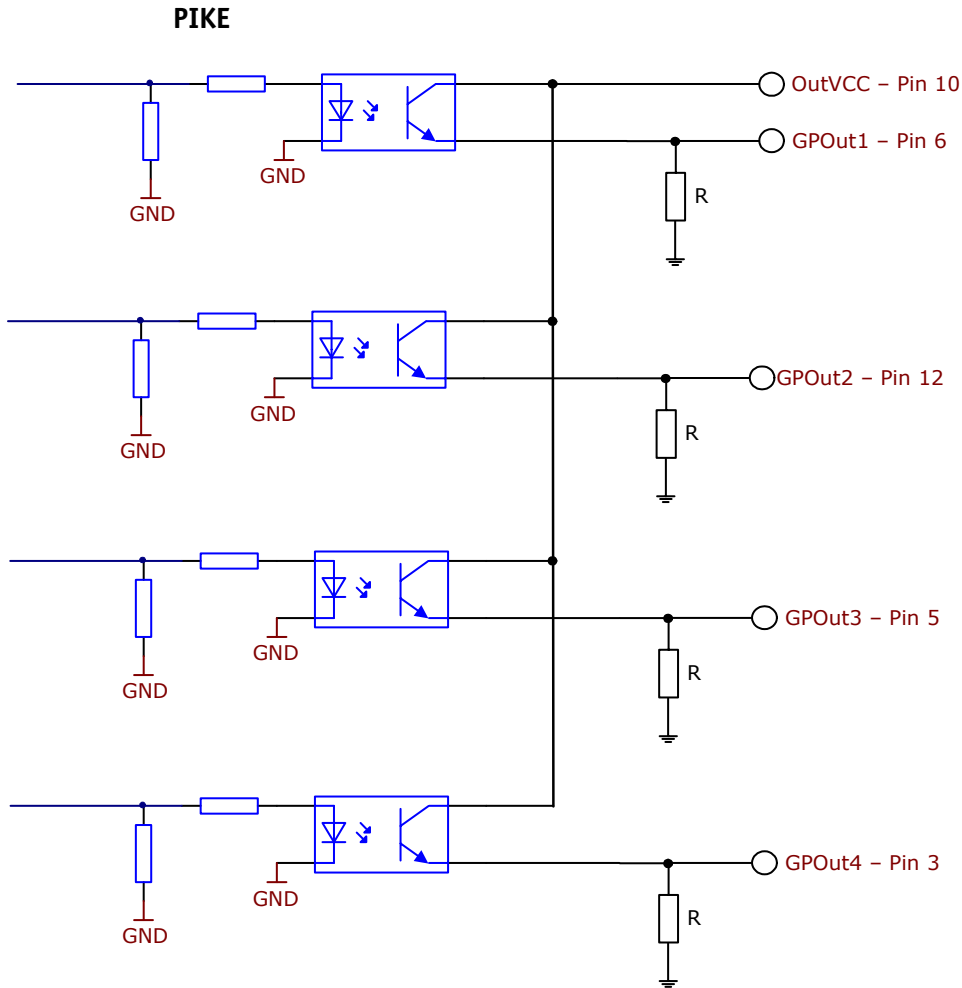

Figure 34: Output schematics with external resistors R (pin no. from camera I/O connector) (PIKE)
- Depending on the voltage applied at OutVCC and the type of input which you want to drive, it may be necessary to switch an external resistor in series between GPOut1...4 and ground. See Figure 34: Output schematics with external resistors R \(pin no. from camera I/O connector\) \(PIKE\) on page 57.